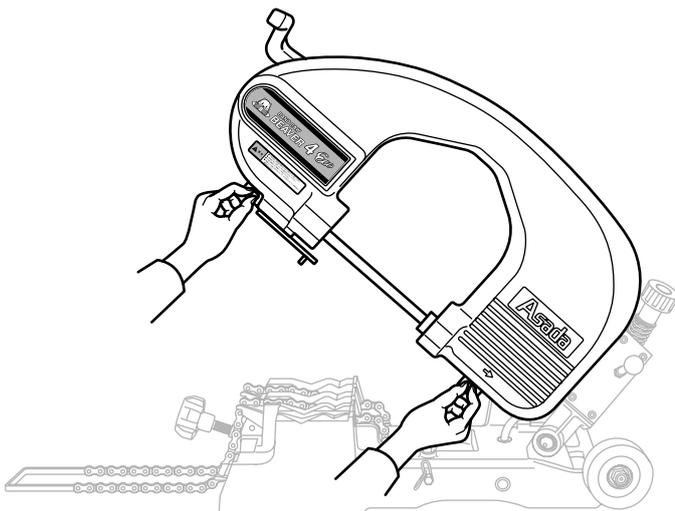

Fig.3
[ Fig.3 , 4 ]
(1)Unlatch the front cover and open the cover. [ Fig.3 ]